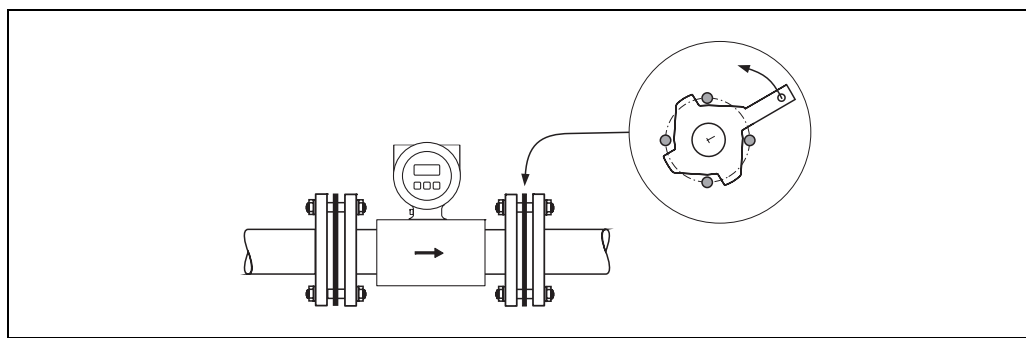

Fig. 18: Assembly with ground disks (Promag W, DN 25 to 300)
1. Place the ground disk and additional seal(s) between the device and the pipe flange (→ Fig. 18).